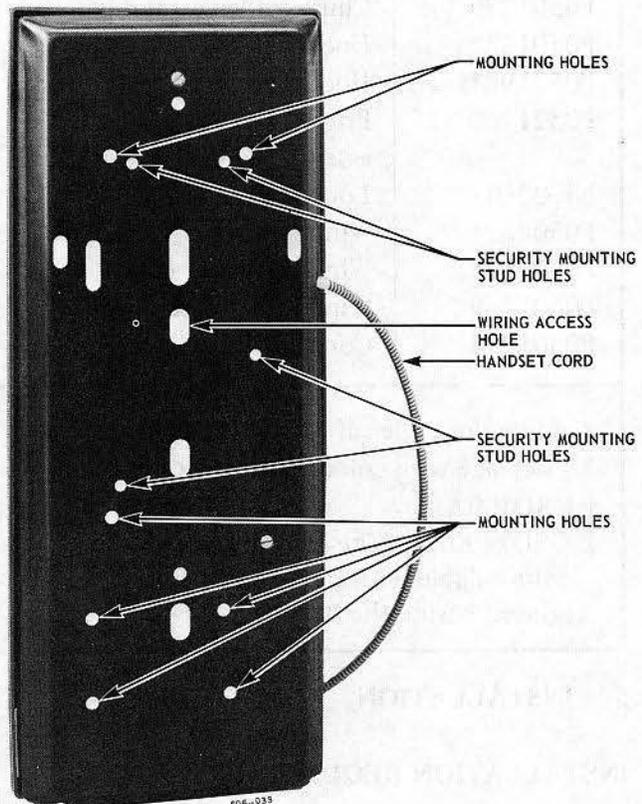

Fig. 7 — Location of Mounting Screw and Security Mounting Stud Holes
5.04 The CENTURION coin telephone set mounting screw holes and security stud hole locations are shown in Fig. 7.
- Insert the four P010E070 security studs in the threaded holes in the back of the telephone set. (See Fig. 7.)